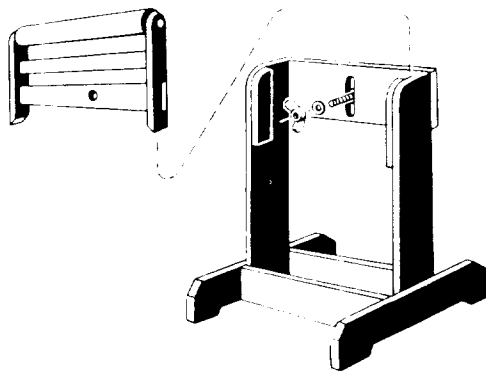

Figure 24
9. The cut is then made by pulling the carriage forward until saw blade cuts through the work. When the cut is complete, the saw should be returned to the back of the radial arm and the switch turned "OFF". **When more experience is gained by using the saw, it will be noticed that when pulling the saw forward during cross-cutting, the saw blade tends to feed itself through the work due to the rotation of the blade and the direction of feed. Therefore, the operator should develop the habit of holding his right arm straight from the shoulder to the wrist.** After using this method a few times, the operator will find that it is necessary to roll or rotate the body from the waist up. It will soon become apparent that very little effort is required to move the saw blade through the work, and in most cases, the right arm is used merely to control the rate of feed. It will also be discovered that when cross-cutting a thick board, movement of the saw through the work must be retarded. By holding the right arm (right hand normally grips the saw handle) straight, the operator can easily control the rate of feed, thus preventing the saw blade from overfeeding and stalling the saw motor, which must be avoided whenever possible. In some cases it may become necessary to cross-cut boards that extend over the saw table on one, or both sides. This can buckle the board and bind the saw during the cut. To eliminate this condition the ends of the board should be supported. Figure 24 shows a typical support that can be easily constructed to facilitate cross-cutting of long boards.
The board must be fed into the saw blade from the right side of the table. Therefore, the normal position for the operator is at the right side of table. With the left hand, safely clear of the blade and holding the board down against the table and rearward against the fence, use the right hand to feed the board into the saw. The left hand should remain stationary, serving as a guide only. As the right hand approaches the left hand, use a push stick in the right hand to complete the cut. Do not leave a long board unsupported so that the spring of the board causes it to shift on the table. (See figure 24.)